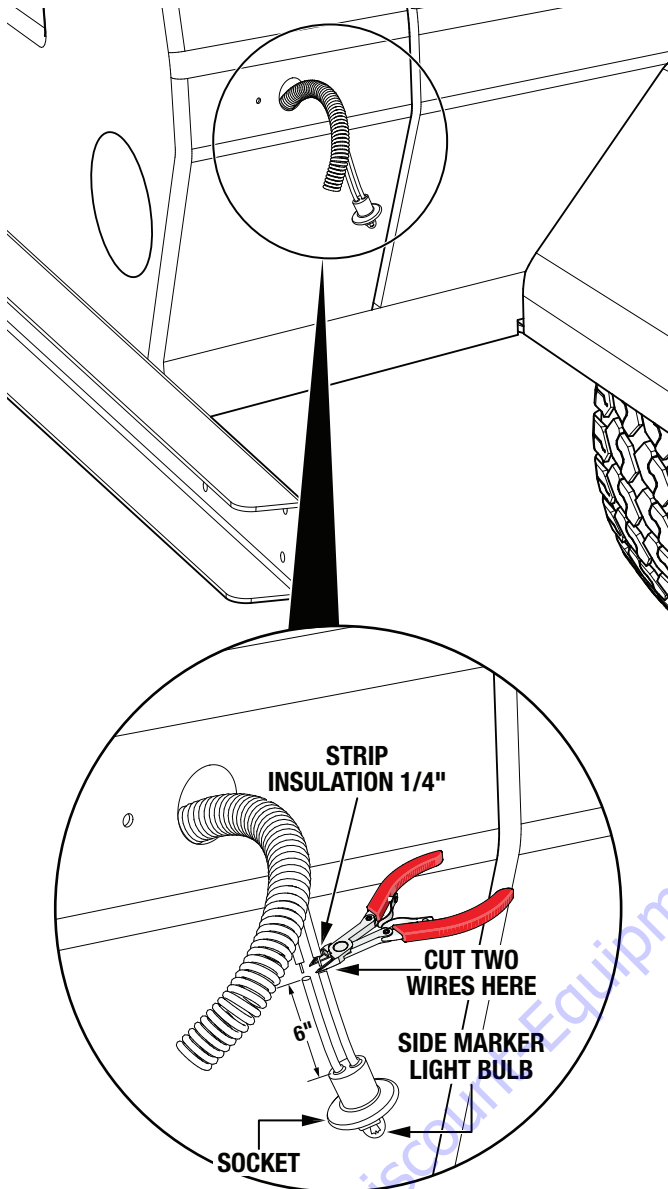

Figure 9. Side Marker Light Disconnection
- Cut the two wires extending from the side marker light bulb socket as shown in Figure 9. Set the light bulb socket assembly aside for later.
- Strip the insulation back 1/4-inch (6 mm) from the end of the remaining wires to expose the conductors. See Figure 9.